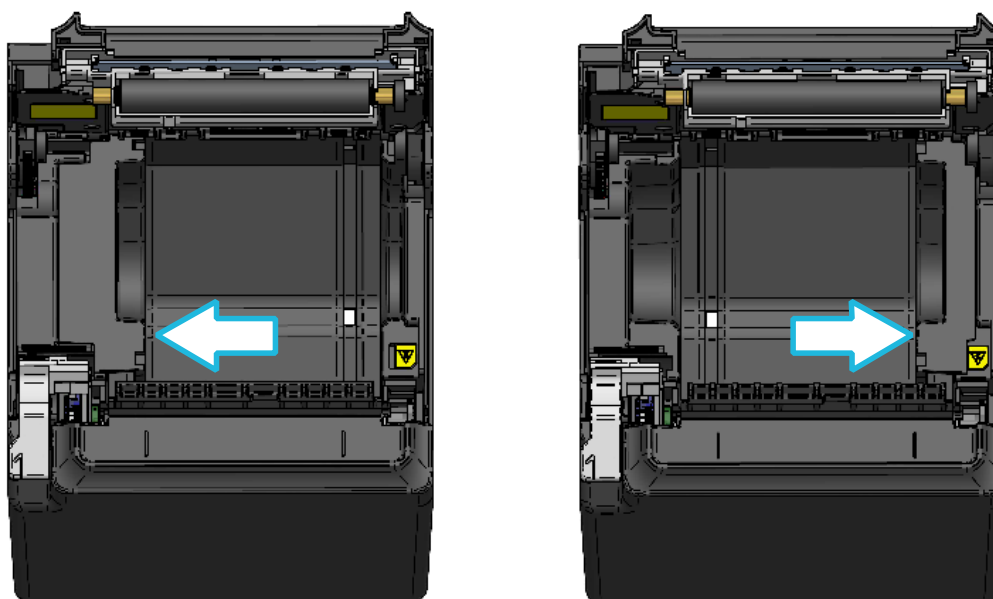

Figure 14-4 Partition Plate Installation (4)
- (6) Push the partition plate L and partition plate R to the direction of the arrow shown in Figure 14-4 with placing them along the side surface of the paper holder, and then put the projection which is located at the bottom of the partition plate in the hole of the paper holder.